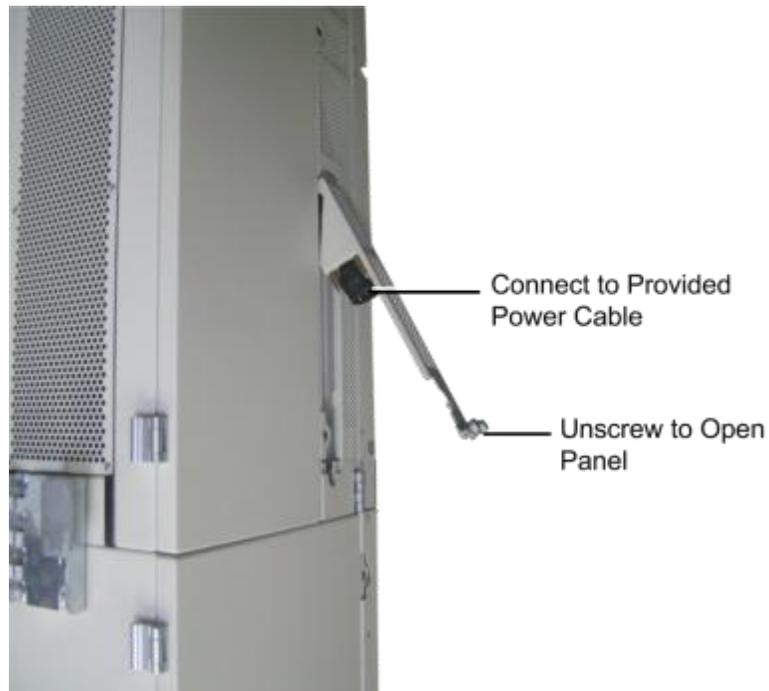

Figure 3-30. GX Power Connector (AC Model)
1. Unscrew the two screws of the side panel (shown in Figure 3-30) and open to access the power connector.